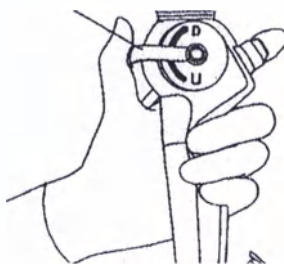

Fig. 4
2. Slowly move the handle up/down and return to its original position to verify the possibility of returning to its original position (see Fig.4).